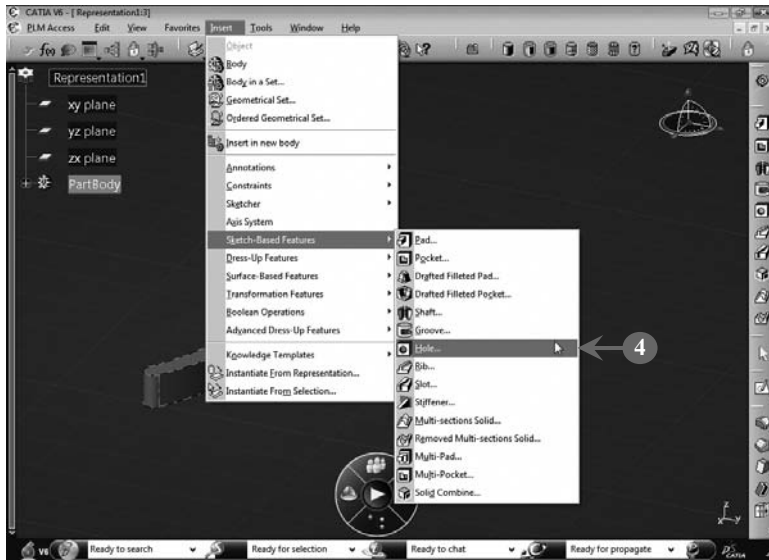

FIGURE 3.26
4. Select the hole feature using **Insert>Sketch-Based Features>Hole**, as shown in **Figure 3.26**: